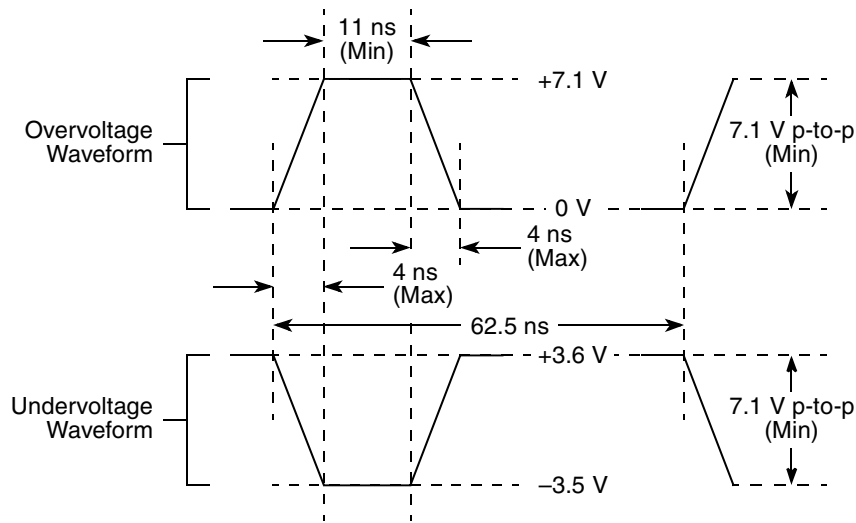

Figure 3. Maximum AC Waveforms on PCI interface for 3.3-V Signaling
- $OV_{IN}$  on the PCI interface may overshoot/undershoot according to the PCI Electrical Specification for 3.3-V operation, as shown in Figure 3.
Figure 3 shows the undershoot and overshoot voltage of the PCI interface of the MPC8555E for the 3.3-V signals, respectively.